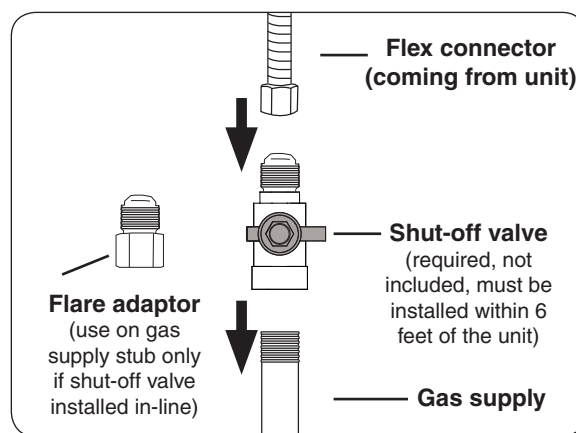

Fig. 17-2 Connecting to a gas line
- Connect the flex connector to the shut-off valve (see Fig. 17-2). Tighten securely.
- Install the supplied flare adapter to the gas supply using a pipe joint compound resistant to all gasses (see Fig. 17-2). Tighten securely.
- Connect the flex connector to the flare adapter (see Fig. 17-2). Tighten securely.